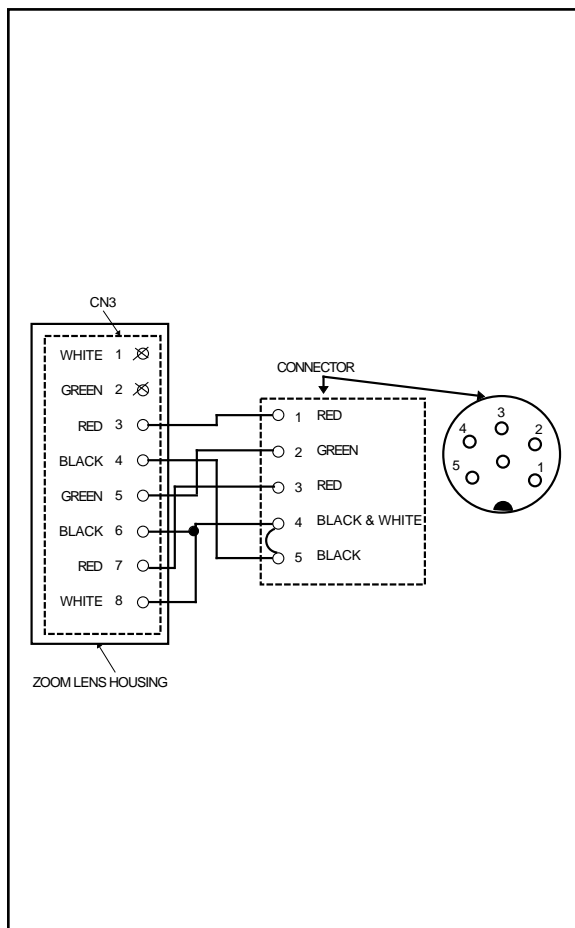

Figure 2. TVJ6MS-1 Connector Wiring
**NOTE:** Pins 4 and 5 are jumpered together. (See Figure 2.)